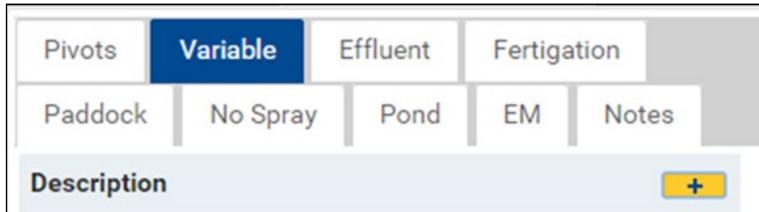

Figure 21-1
1. On the Status pane select the tab that corresponds to the area you want to make (variable, effluent, paddock, no spray, or pond) Refer to Figure 21-1.